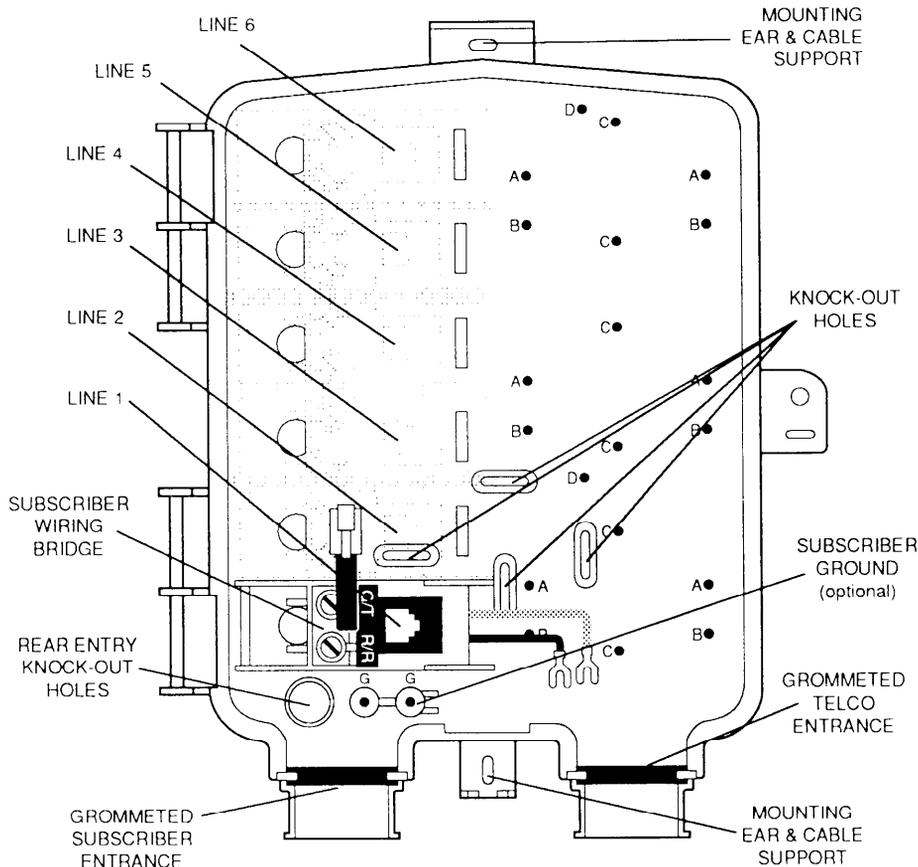

Fig. 2—SNI-4600 details and features
3.07 Insert drop wire(s) through entrance (right) grommet and secure to station protector(s). Refer to Figure 2.
3.09 If premise wire(s) is to be terminated, insert P/W(s) through entrance (left) grommet and secure to Subscriber Wiring Bridge(s). Refer to Figure 2.
3.27 Make wiring connections as shown in Figure 2. Note that wiring must be dressed as close to the